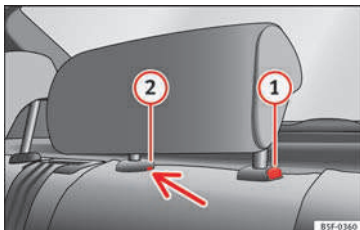

Fig. 129 Rear centre head restraint: release point.
- To set the head restraint lower down, press the ① » » » Fig. 129 button and move it downwards.